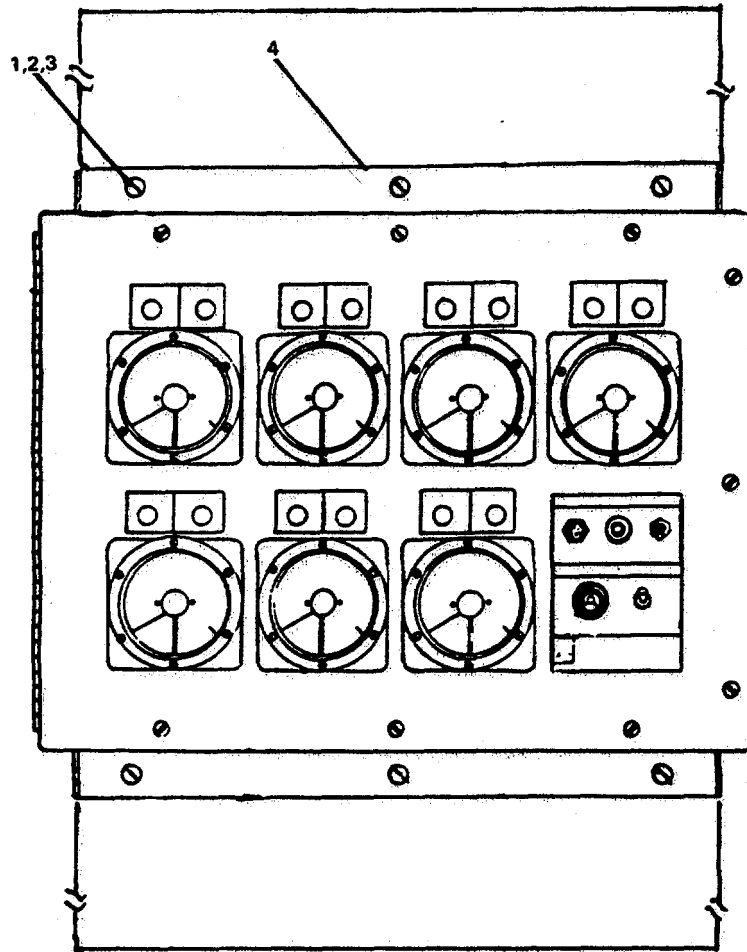

FIGURE 3-41. Receiver Module, Box Assembly.
**REMOVAL** (Figure 3-41)
- a. Tag and disconnect electrical cable connectors at top of box assembly (4).
- b. Remove six plain hex nuts (3) lockwashers (2) and hexhead capscrews (1) securing receiver module box assembly to support mount.